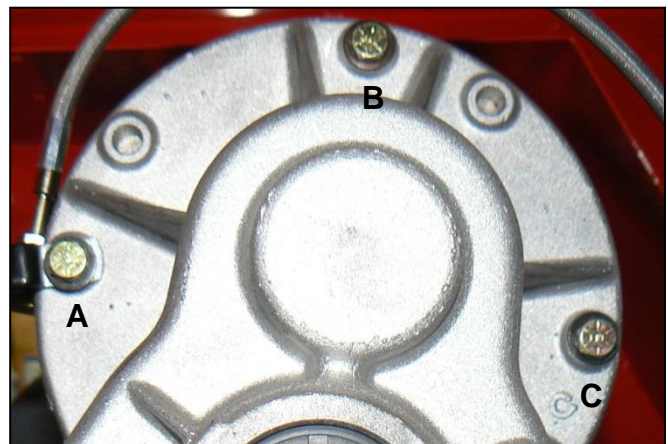

Figure 9-18
2. Rotate motor to align mounting bolt holes to axle/differential housing. Install 3 bolts securing motor to rear axle/differential housing, while carefully supporting motor to prevent it from falling. Loosely tighten screws A and B, then loosely tighten screw C to draw face of motor up to flange on axle evenly (Figure 9-18). Torque screws A and B to 100 in. lbs. (11.3 Nm) Then tighten screw C to 100 in. lbs. (11.3 Nm).